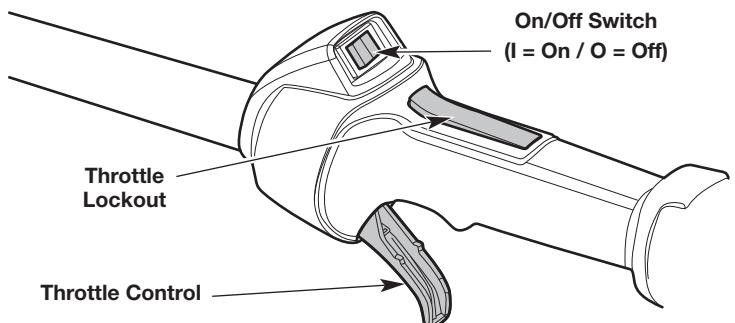

Fig. 7
- NOTE:** There is no need to turn the unit on. The On/Off switch is in the **On (I)** position at all times (Fig. 7).
- NOTE: DO NOT** squeeze the throttle control until step 8 (Fig. 7).
8. Press and hold the throttle lockout (Fig. 7). Squeeze the throttle control as needed for operation (Fig. 7).
2. Press and hold the On/Off switch in the **Off (O)** position until the engine comes to a complete stop (Fig. 7).
- NOTE:** There is no need to turn the unit on. The On/Off switch is in the ON (I) position at all times (Fig. 7).
- NOTE: DO NOT** squeeze the throttle control until step 10 (Fig. 7).
10. Press and hold the throttle lockout (Fig. 7). Squeeze the throttle control as needed for operation (Fig. 7).
2. Press and hold the On/Off switch in the OFF (O) position until the engine comes to a complete stop (Fig. 7).